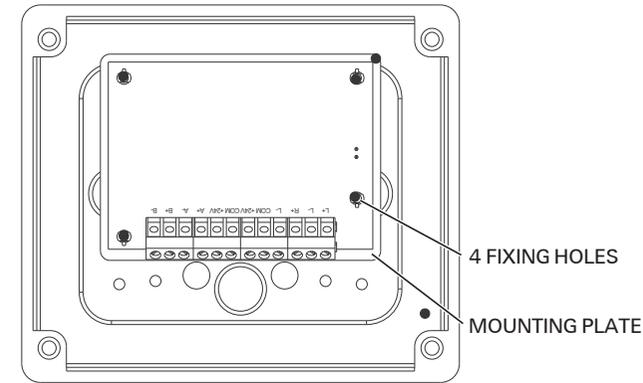

Fig. 5: DDM800 in the D800 housing
- 2 Mount the mounting plate into the housing and tighten the four fixing screws (see Fig. 5).